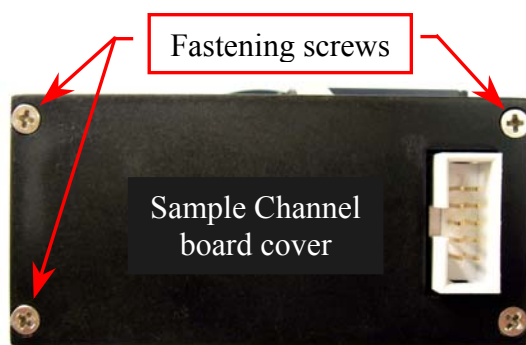

Fig. 68 – Fastening screws of the Sample Channel board cover
2. Unscrew the four fastening screws of the Sample Channel board cover (**Fig. 68**) and remove it from the Photometer.